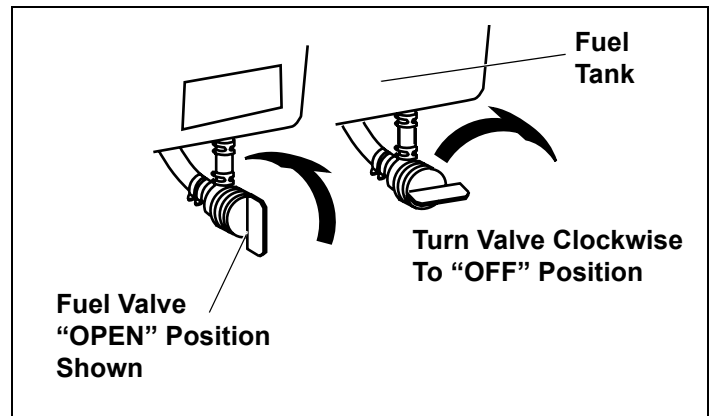

Figure 9. Fuel Valve Positions
6. Be sure fuel valve, if present (see equipment manufacturer's instructions) is open. See Figure 9.